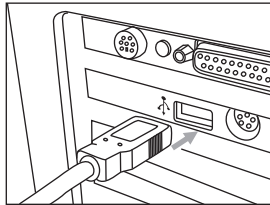

Figure 27
- Plug another end of USB wire into the interface port on PC, as shown in figure 27: